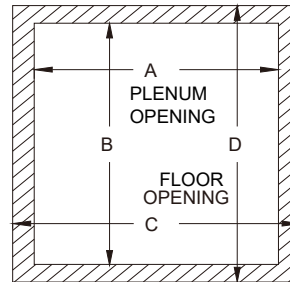

Fig. 6-2 Floor and Plenum Opening Dimensions
2. Construct hole in floor per Table 2 and Fig. 6-2.
3. Construct plenum to dimensions specified in Table 6-1 and Fig. 6-2.